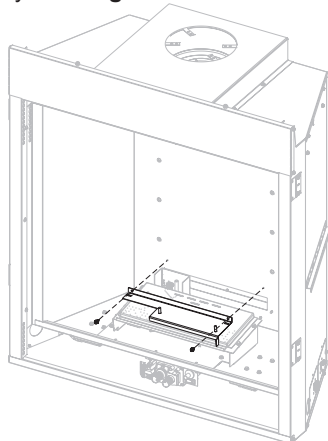

Figure 8
5. Remove log support by removing the two screws securing the metal plate to log support. Retain log support and screws for reassembly. **See Figure 8.**
14. Reinstall the log support and secure it with the metal plate and two screws removed in step 5. **See Figure 8.**